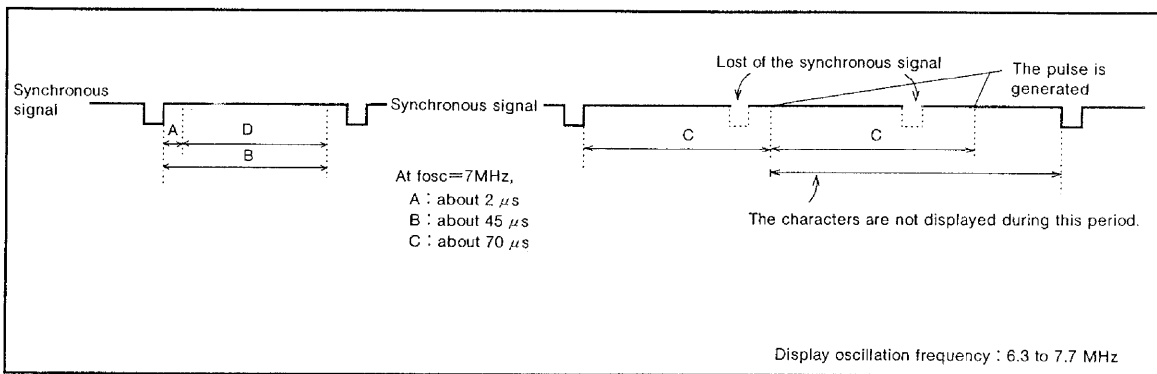

Fig. 12 Example of time base function
- (1) Time base 0—TBASE0 (DA6 of address F1₁₆)="1".
- Cut-off a noise during D period of Figure 12.
- (2) Time base 1—TBASE1 (DA7 of address F1₁₆)="1".
- Generate the pulse if the synchronous signal has not input during C period of Figure 12. And stop to display the character till the next synchronous signal is input.